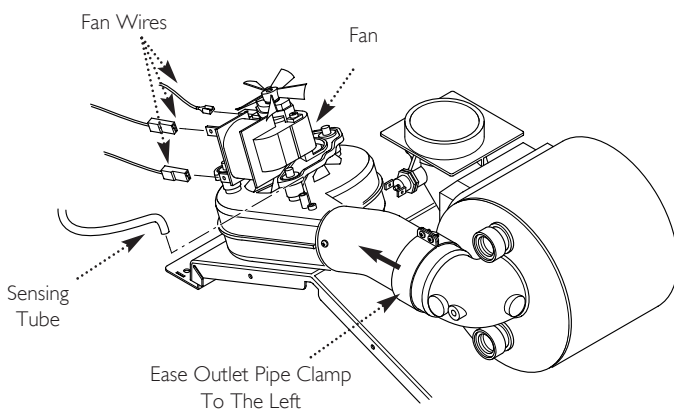

Fig. 55
7. Note the positions of the three wires on the fan motor and remove them. Remove the sensing tube from the fan spigot (Fig. 55).